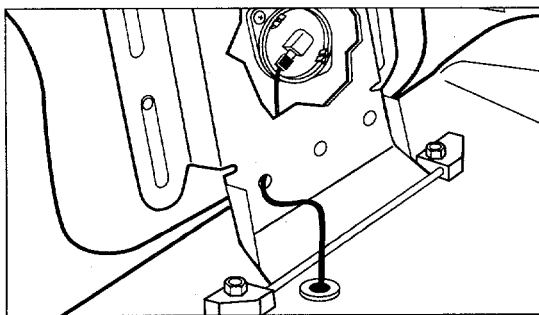

Figure 2-7: Connect the wire coming up from the fender to the electrical switch underneath the seat.
1. Attach the electrical connector at the bottom of the seat to the wire harness connector coming out of the middle of the rear fender assembly. See Figure 2-7. ***These two connectors must be securely plugged together for safety reasons—they allow the automatic engine shutoff feature to work if you leave the operator's seat without turning off the engine or engaging the parking brake. The wire harness must also move***